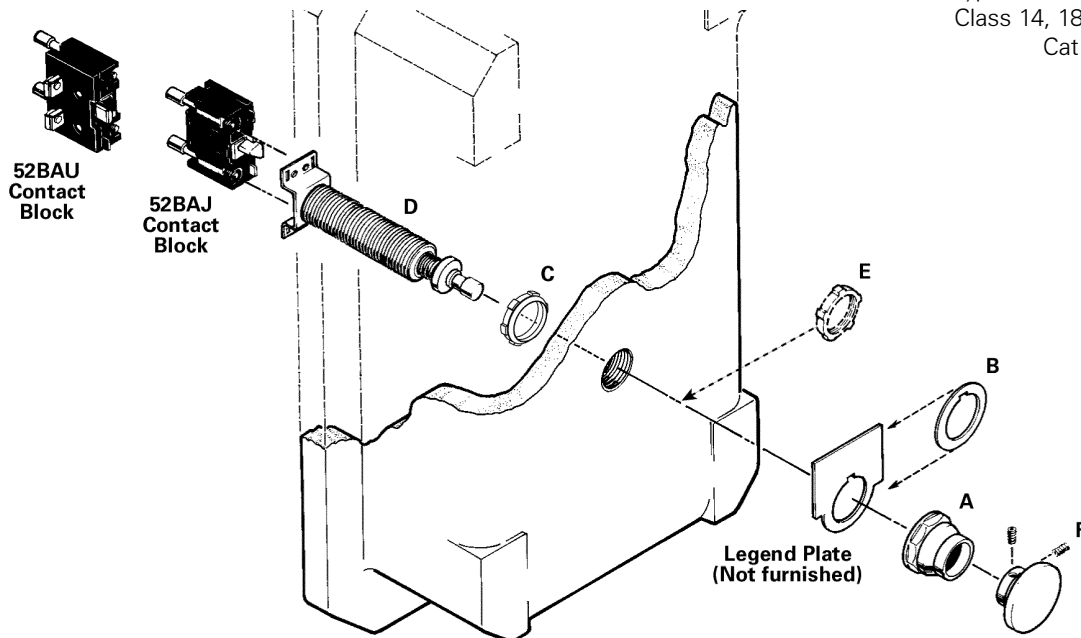

Figure 1
7. From inside the enclosure, install assembly **D** through a 3/4 inch 14NPSM tapped hole until the front of the bushing projects 5 or 6 threads from the front surface of the enclosure. If vertical alignment of the contact block terminals is desired, position the bushing with the contact block bracket as shown in Figure 1.